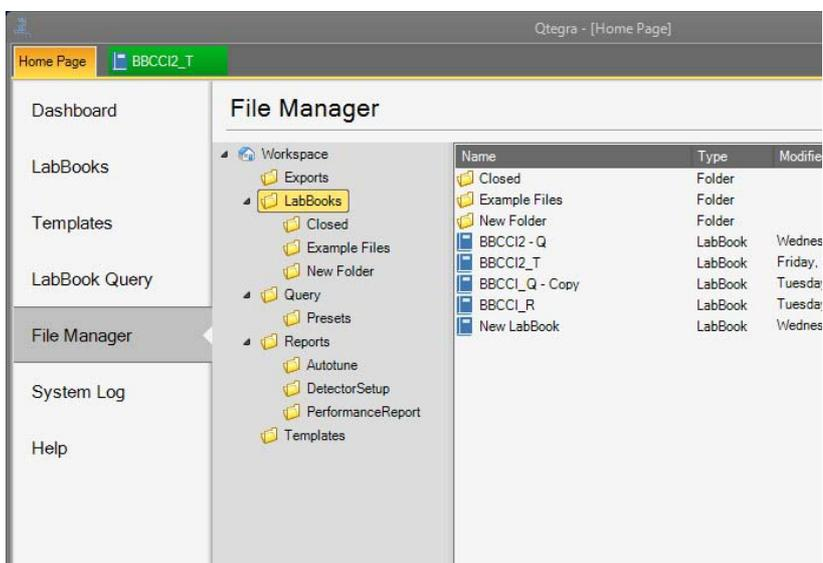

Figure 4-37. File Manager - LabBooks
1. On the File Manager page, click the **LabBooks** folder (or the subfolder for the LabBook you wish to delete), see Figure 4-37.